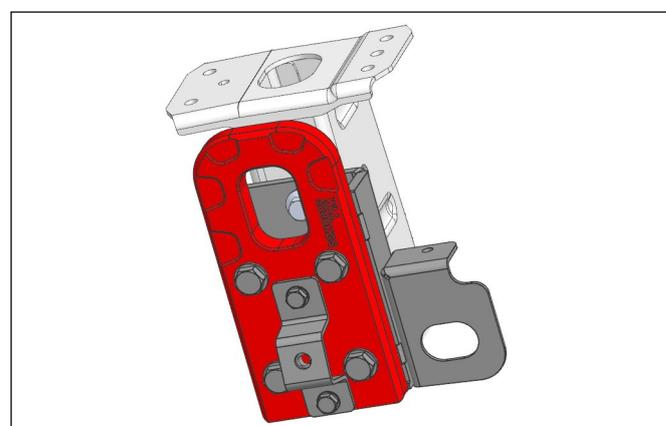

Fig.29
29. Similarly install on the right side of vehicle (fig.29).